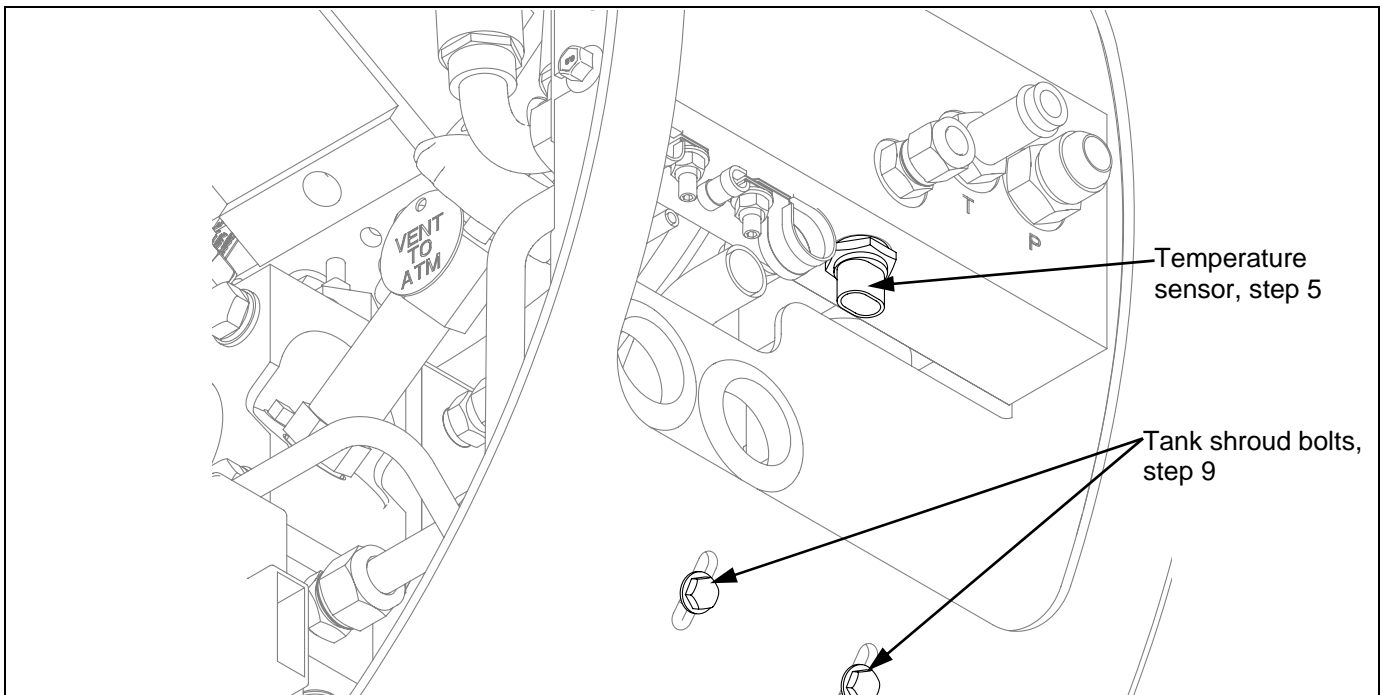

Figure 2: Location of temperature sensor
8. LHS tank only: Remove the temperature sensor from hydraulic manifold block and set aside (Figure 2).